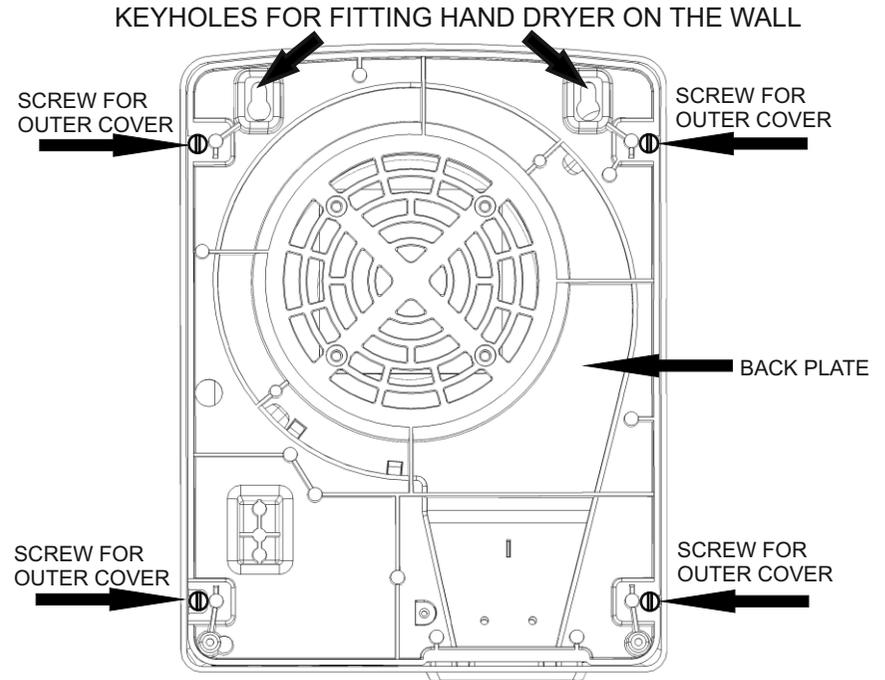

Fig.1
- 5) With the help of keyholes in the back plate of the hand dryer (Refer Fig. 1), hang the hand dryer on the wall.
- 2) Remove the hand dryer from the wall and place it on a table with the back plate facing upwards as shown in Fig. 1 above.